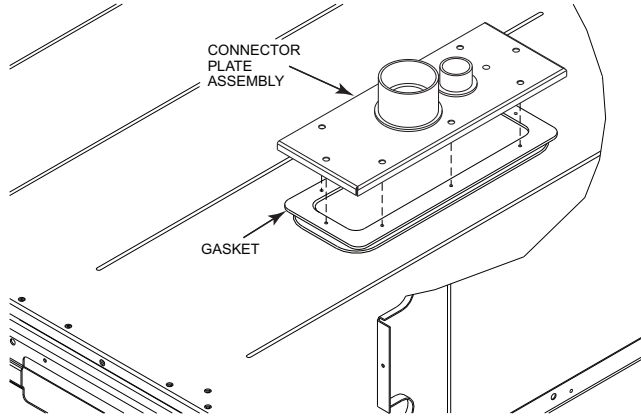

Fig. 56 — Completing Installation of Thru-the-Base Option
- Place the gasket over the embossed area in the basepan, aligning the holes in the gasket to the holes in the basepan. See Fig. 56.